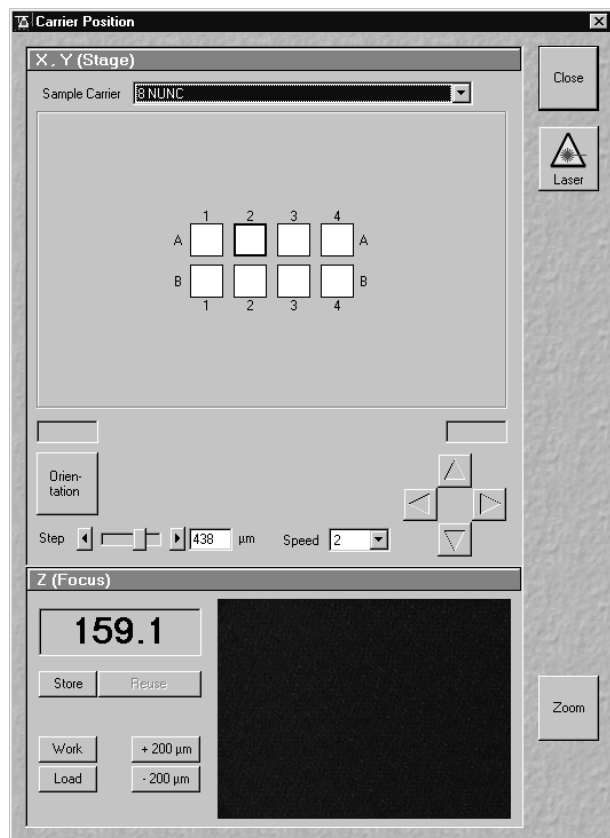

Fig. 3-13 Carrier Position window
- The sample select window (**Carrier Position** window) pops up (Fig. 3-13).
(1) Selecting Carrier
- Select the sample carrier you are currently using in the **Sample Carrier** selection box of the **Carrier Position** window (Fig. 3-13).